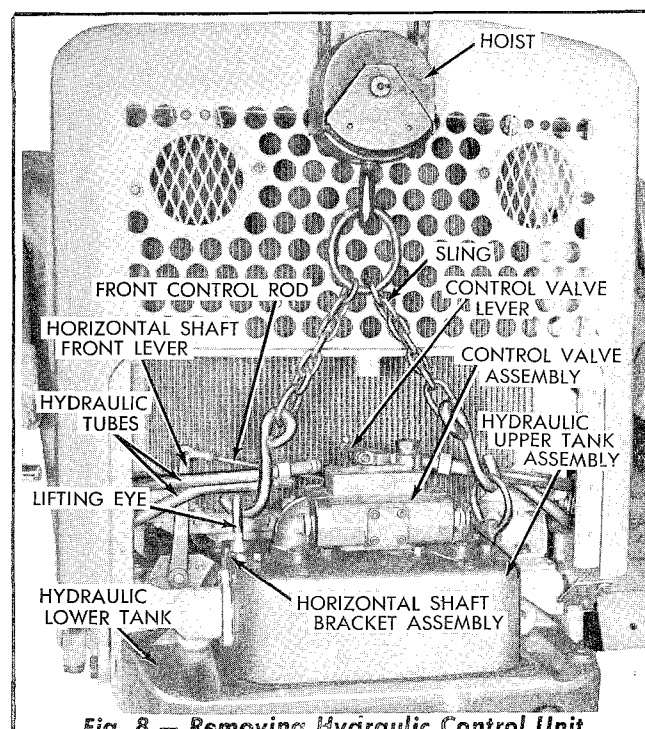

Fig. 8 — Removing Hydraulic Control Unit
5. Remove the four capscrews securing the control valve assembly to the upper tank and remove the control valve assembly. Remove the eight capscrews securing the upper tank assembly to the lower tank and remove the upper tank from the lower tank as shown in Fig. 8.